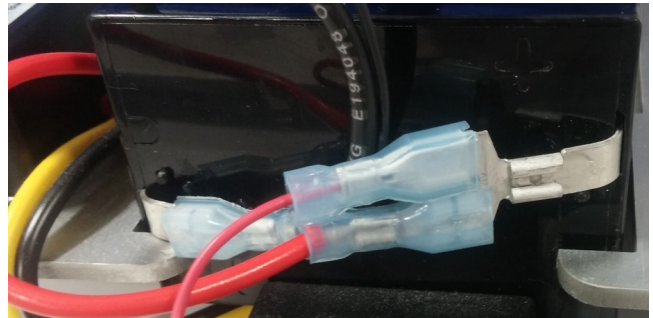

Figure 5: Charger cable connected to battery
6. **Apply power by connecting the red wire from the fuse to the positive (open) battery terminal (fig. 5).**